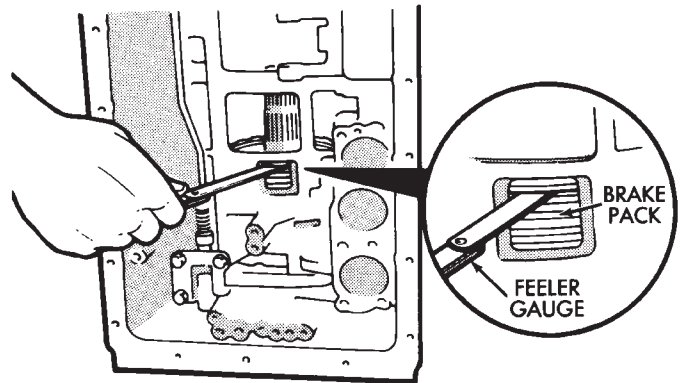

Fig. 16 Checking Second Brake Pack Clearance
- (19) Install second brake pack retainer with rounded edge of retainer facing disc.
- (20) Install second brake pack snap ring.
- (21) Check brake pack clearance with feeler gauge (Fig. 16). Clearance should be 0.062 - 1.98 mm (0.024 - 0.078 in.). If brake pack clearance is not correct, brake pack components are not seated. Reassemble brake pack if necessary.